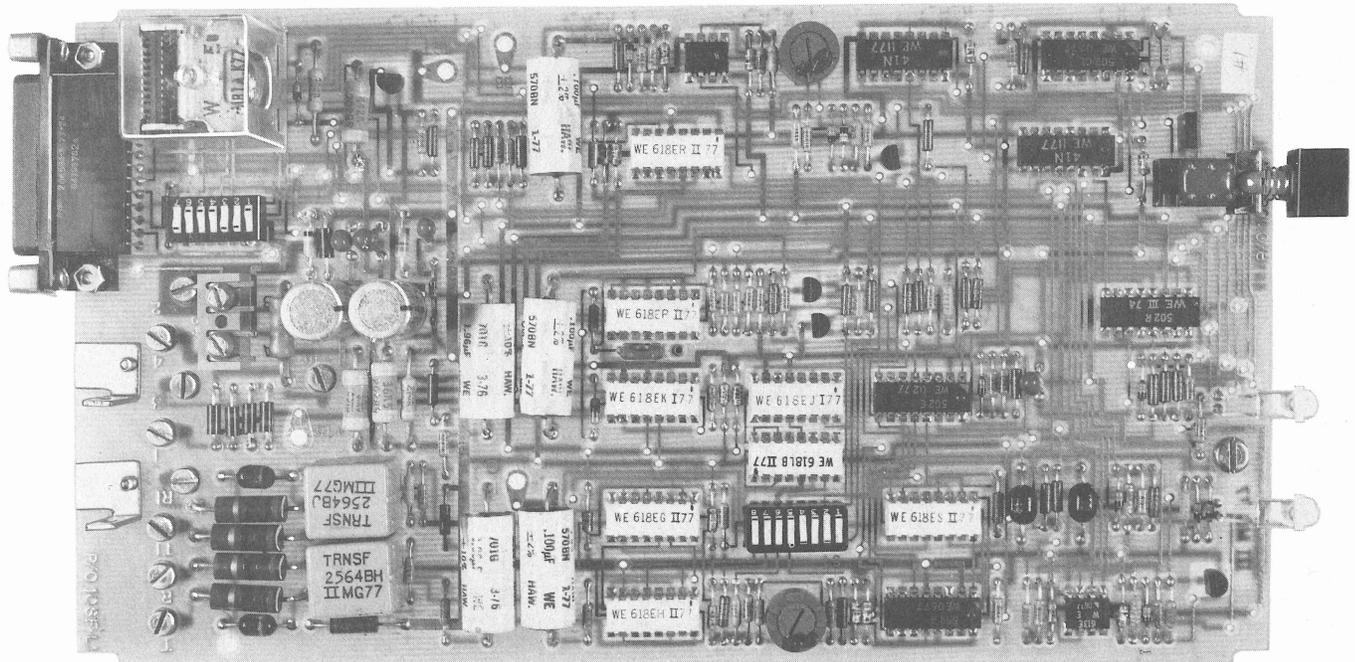
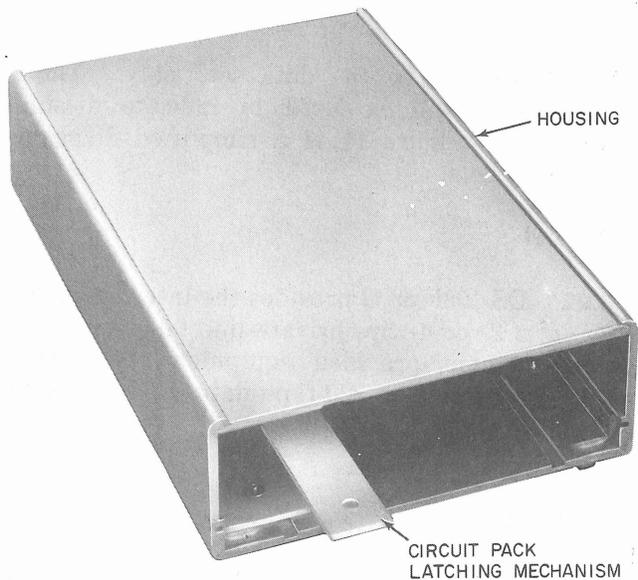

Fig. 3—Circuit Pack of DS 108F (Similar to DS 108G Circuit Pack)
Fig. 4—DS 108F or G Housing
2.03 The housing is externally similar in appearance to the 47-type data mounting. The housing assembly consists of an aluminum extrusion which provides card guides for mounting the circuit pack (Fig. 3) and front and rear covers. No interface assembly or electrical connections are provided. All connectors are mounted directly on the circuit pack. The circuit pack is held in position by the latching mechanism shown in Fig. 4.